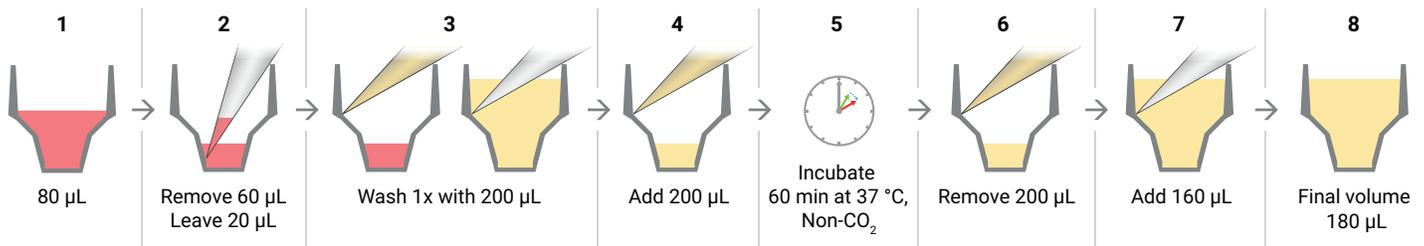

Figure 3. Cell wash workflow schematic – XF Real-Time ATP Rate Assay and XF Glycolytic Rate Assay.
- a. When performing the Agilent Seahorse XF Real-Time ATP Rate Assay and Agilent Seahorse XF Glycolytic Rate Assay, the second cell wash is delayed until cells have been incubated for 1 hour at 37 °C, non- CO_2 , and immediately prior to starting the experiment (Figure 3).